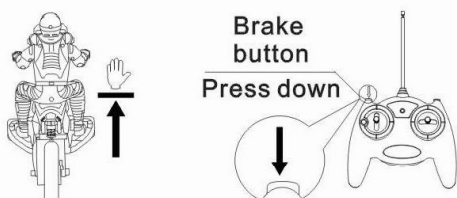

Fig8
- 3.When the body in driving, press the "brake button", the body will stop running. (Figure 8)